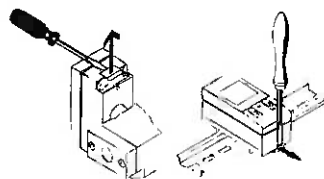

Fig. 30
- Dismantle the SDE1-... as shown in Fig. 30.